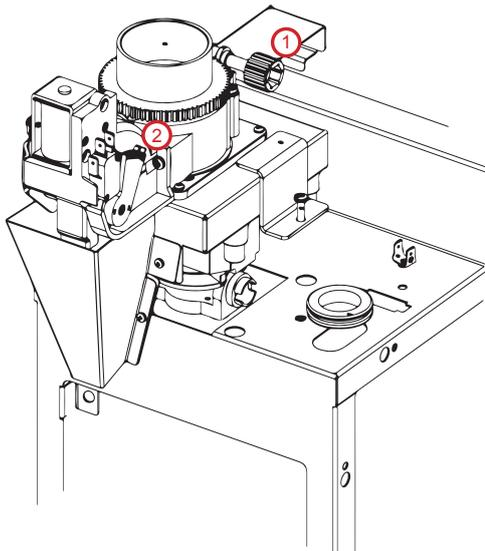

Fig.4.6
The dosing apparatus helps you set the required amount of coffee for the espresso group according to the desired drink. The volume of coffee is regulated with the help of the dosing apparatus's cam (see fig.4.6 pos.2 and fig.4.7). The positions can be from **1 to 6 (MAXIMUM)**. At the same time it is prohibited to set the cam to positions **5 or 6 without increasing the volume of the boiling chamber (see further)! THIS CAN DAMAGE THE ESPRESSO GROUP!**